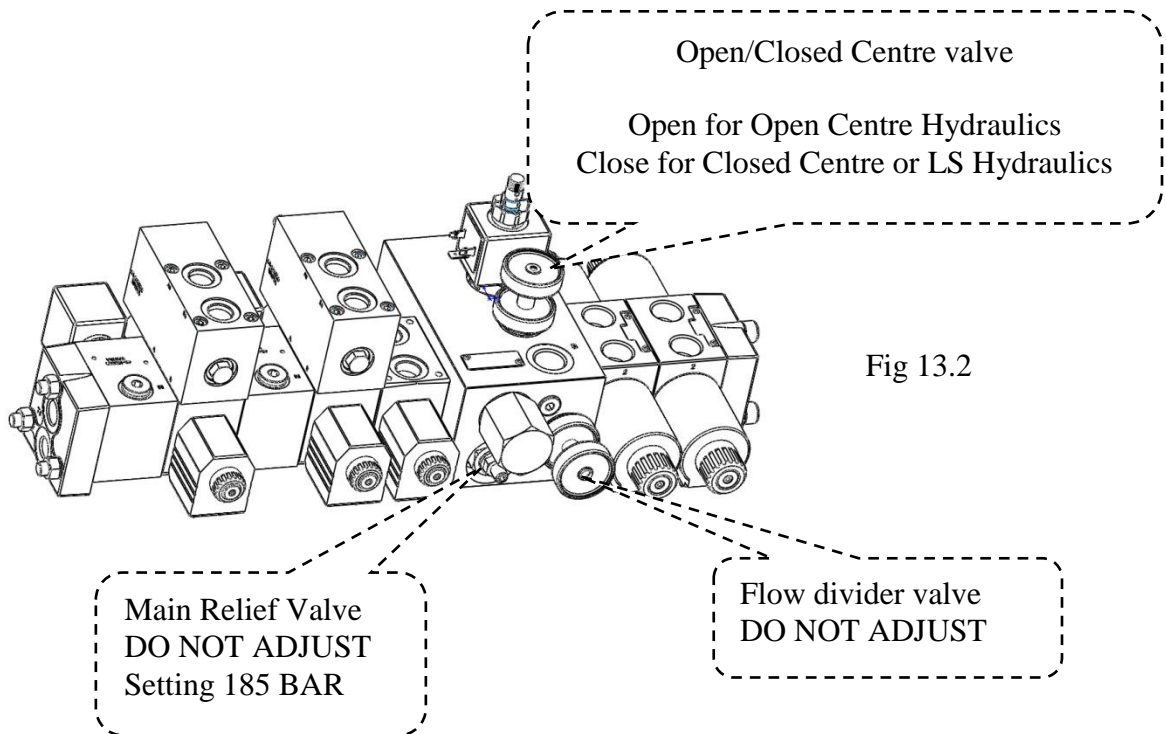

Fig 13.2
Most tractors have an “Open Centre” Hydraulic System which delivers a continuous oil supply. The 1814 machine is set as standard to suit this. The Open/Closed Centre valve is fully opened. See fig. 13.2.
A tractor with a “Closed Centre” hydraulic system requires the machine to block the oil supply through the machine when no function is operating. This is done by fully closing the Open/Closed center valve. See fig 13.2.
- b) Check cross line relief valve (S4). (See fig. 13-2). Screw in one turn and test. If it does not have an effect screw back to original position.
- c) The safety valve, (S3, fig. 13-2), can be leaking, so that the oil is passing by the wrapping arm motor. Dismantle and try out if the sliding shaft can move freely.